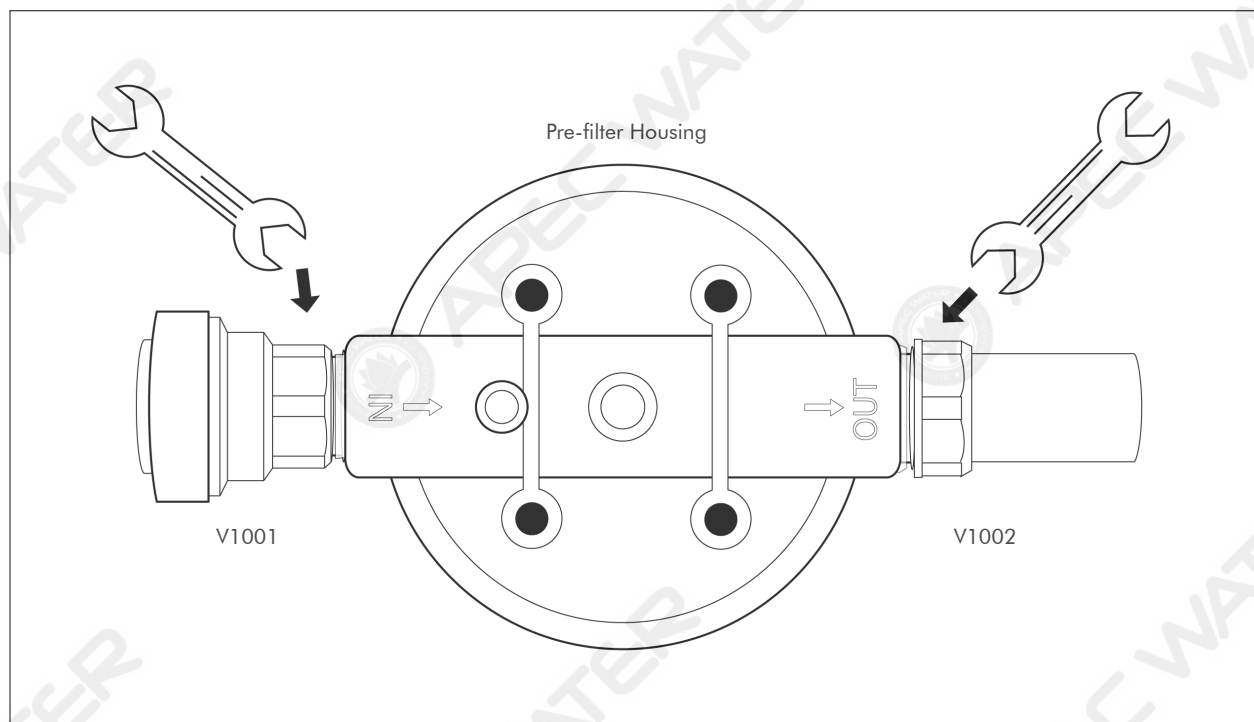

Fig.3
Step 3. Hand-tighten V1001 and V1002, using a wrench to tighten with 1-2 turns. (Do not over tighten) See **Fig.3**.